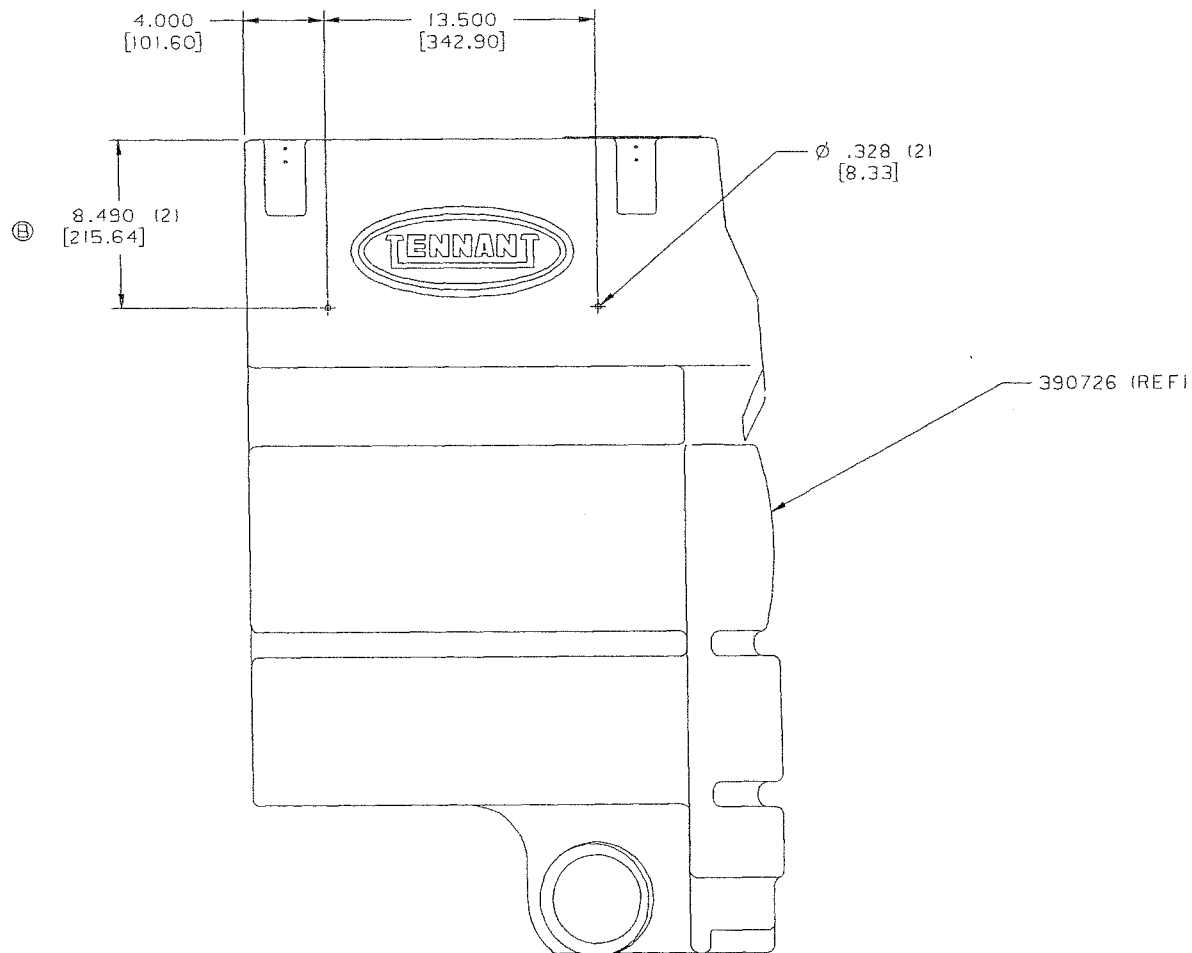

FIG. 1 - MOUNTING HOLE LOCATIONS, BAG, STORAGE
(Refer to FIG. 1 and 2)
1. Locate and mark the two mounting hole locations, using the rework drawing in figure 1.
(Refer to FIG. 1)